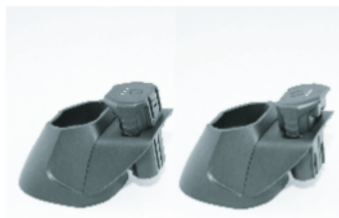

Fig. 27
1. Insert the battery as shown (Fig. 27), with the contacts facing downwards. Either insertion orientation can be used.